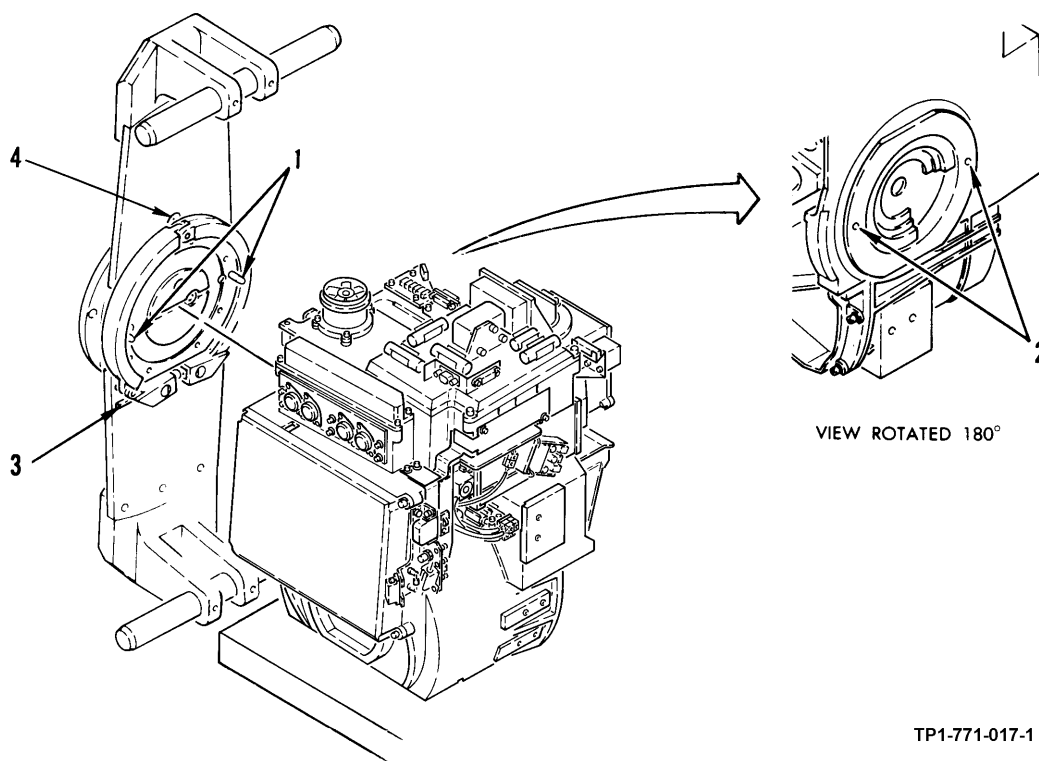

Figure 2-12. Mounting Insert/Adapter to TADS NSA
- (2) Place TADS NSA on edge of workbench tabletop with mounting flange facing operator.
- (3) Aline insert/adapter guide pins (1, figure 2-12) with guide pin holes (2) on TADS NSA mounting flange. Ensure that insert/adapter is oriented with clamp assembly bolt (3) in the down position, as shown. Mount insert/adapter to TADS NSA.
- (4) Ensure that clamp guide pin is in guide pin alignment hole (4) of insert/adapter and that insert/adapter mounting surface is flush against TADS NSA mounting surface.
- (5) Set torque wrench to 100 in-lb and use torque wrench to tighten clamp assembly. Ensure that insert/adapter is secured to TADS NSA by checking for no free movement between them.